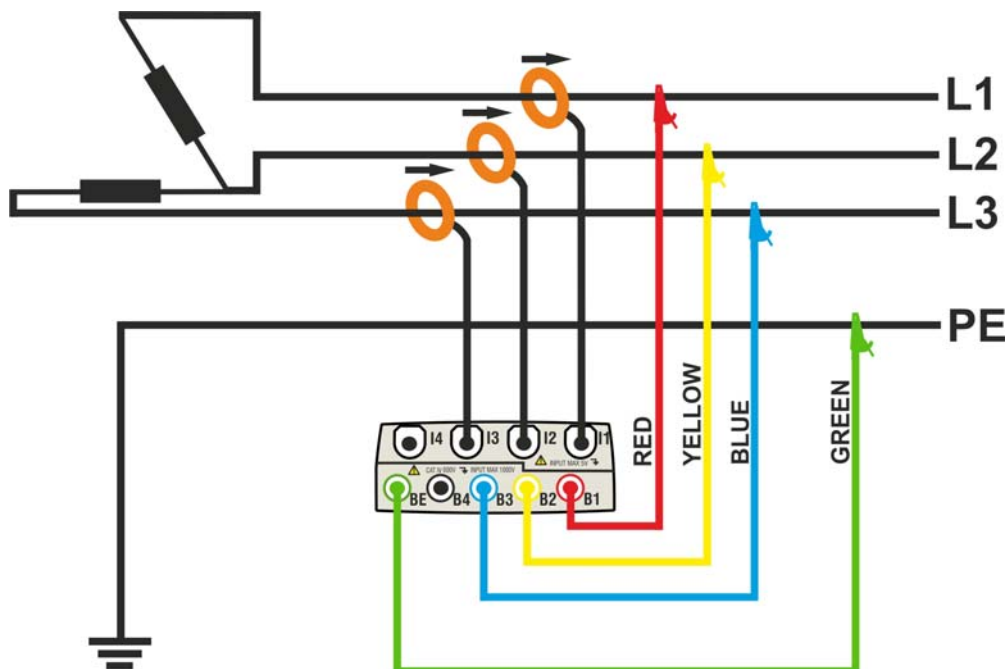

Fig. 125: Meter connection in a three phase 3-wire 3P OD system – ENG\_UK type
2. Connect voltage test leads on Phases L1, L2, L3 and PE cables considering the colours as shown in Fig. 125. **Verify the result “123” at display relative to a correct phase sequence indication** (see § 5.2.1) and perform the corrections if necessary.
3. Connect the transducer current clamps on Phase L1, L2, L3 cables as shown in Fig. 125 respecting the clamp's arrow direction indicating the current standard sequence from generator to load. **On Real Time Values' section screens (selecting a 3 wire system preliminarily) always verify the positive value of Active Power and the power factor relative to load which should be normally inductive** before starting a recording. Reverse the clamp by 180 degrees on cables in case of negative readings.